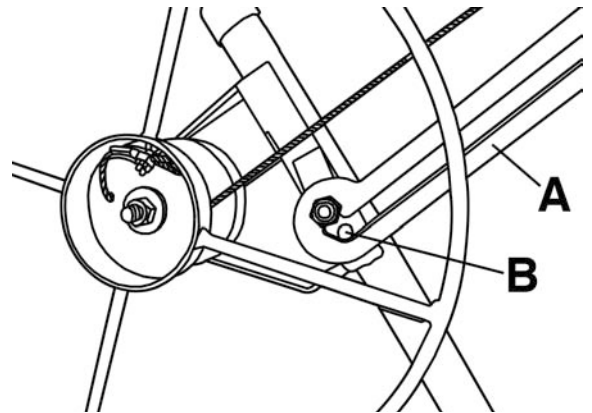

FIGURE 15
- 6) Unlock the winch assembly by pulling the slide bar (A) Fig.15 away from the slide bar lock (B) (towards the right), then lift the slide bar. Crank the winch to move the winch assembly towards the frame. When the slide bar contacts the frame, keep turning the winch a bit more until the telescopic post movement is prevented by the retaining hook. Reposition the slide bar against the slide bar lock, making sure it engages it and holds the winch assembly in place. Lower the winch brake arm to secure it in place.